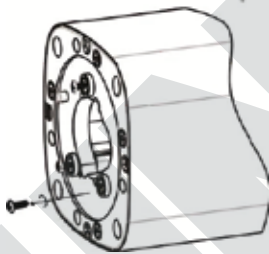

Fig. 1
4. Remove the three screws from the base of the appliance (Fig. 1).